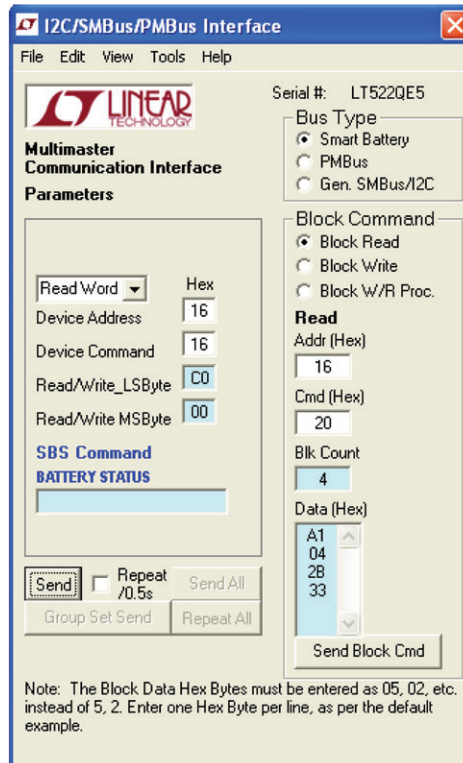

Figure 4. General User Interface for SMBus Communication
7. A General User Interface window appears as shown in Figure 4. Input the slave address and the commands to talk to the smart battery or LTC1760. 16HEX is the slave address of the smart battery. A 16HEX device command is the AlarmWarning() command sent to the battery. The read word result is 00C0HEX, meaning no alarms raised except that the battery is currently discharging. For more information about the meaning of device command 16HEX go to View → SBS → SBS Table.